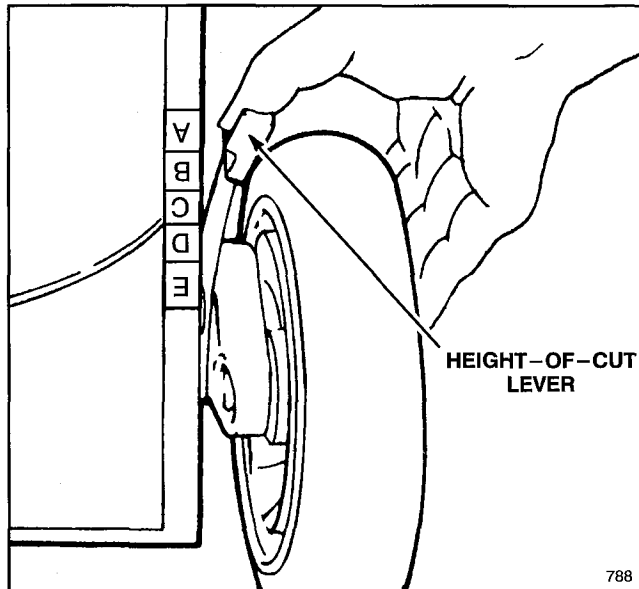

Figure 13
2. Put all four wheels in "E" height-of-cut position (Fig. 13).